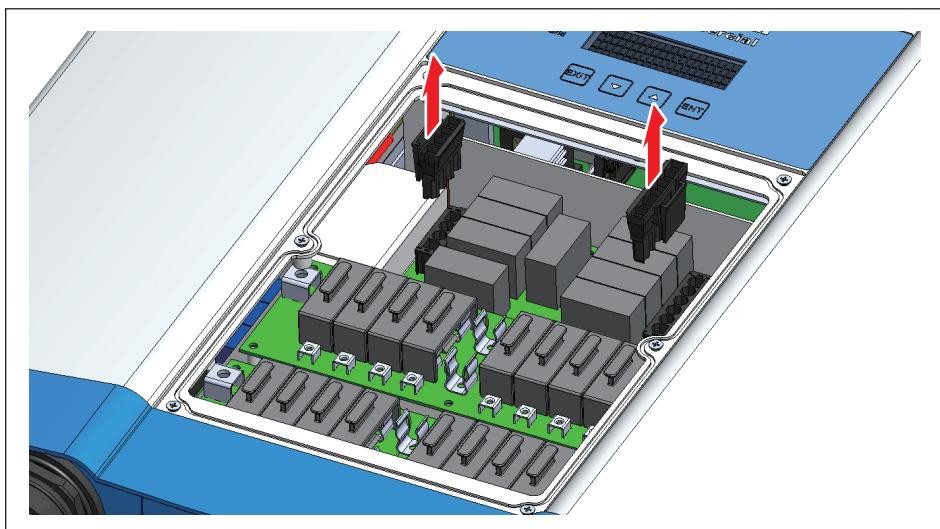

Figure 6-2 : Recognize the connectors
3. Recognize the connectors. (*Figure 6-2*)